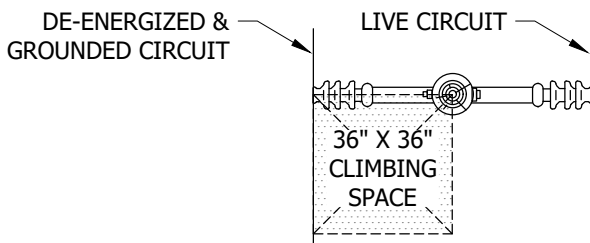

FIGURE 3 (IIIb)
- b. ONE OR BOTH CIRCUITS ARE DE-ENERGIZED, BOND WIRES AND DE-ENERGIZED CIRCUIT ARE GROUNDED, AND CLIMBING SPACE IS PROVIDED AS SHOWN IN FIGURES 3 & 4.